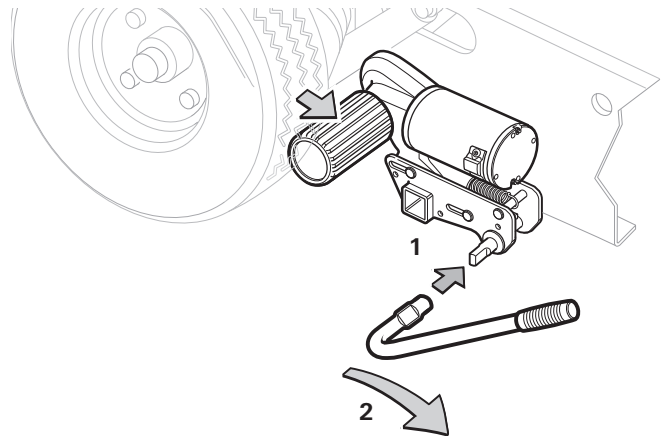
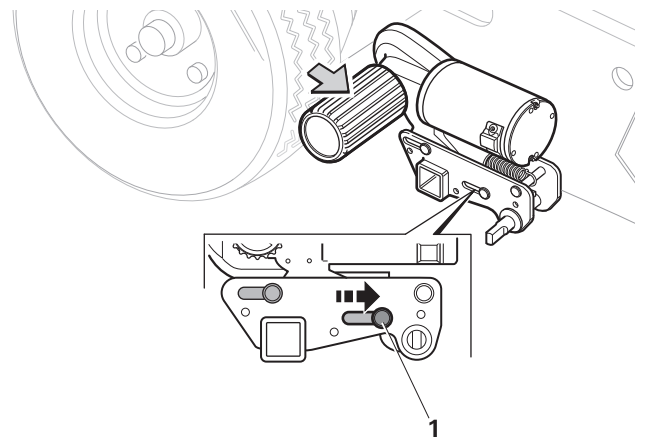

Figure 9
Figure 10
– Attach the engagement lever to the toggle crank (Figure 9 - 1).
– Turn the engagement lever in the direction of the arrow (away from the vehicle wheel) (Figure 9 - 2) until the driver roller engages securely in the end position. The position indicator in the housing is now at "X" (Figure 10 - 1).